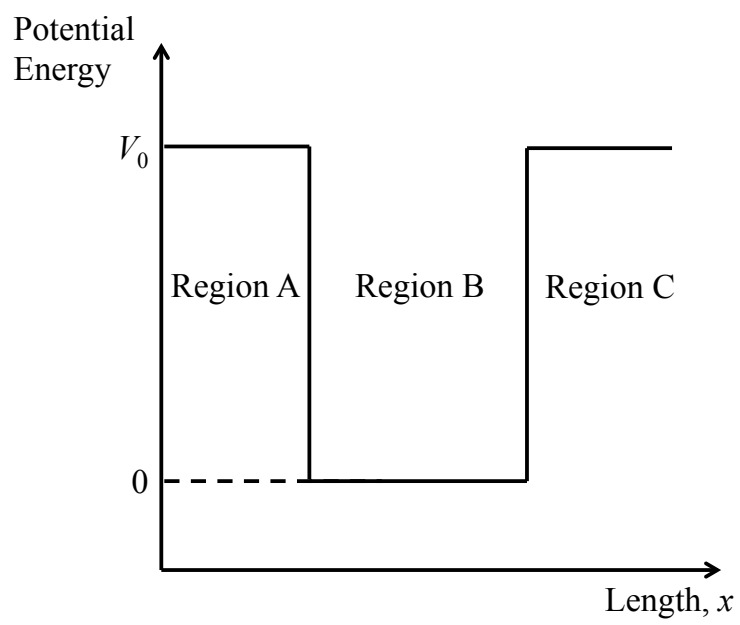

Fig. 6
- (d) Consider the case of a particle in the finite potential well shown in Fig. 6. The total energy of the particle is less than V_0 .